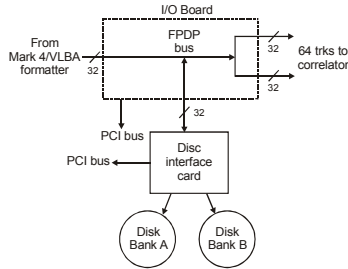

Figure 6: Diagram of 'st' data mode
2. ‘st’ – (‘straight-through’ Mark 4 data; see Figure 6) headstack 1 tracks 2-33 are directly recorded using the 32-bit wide FPDP bus connected to the StreamStor card. The data are not massaged in any way; all parity bits are recorded. At the Mark 5A output, the data are duplicated on headstack 2 tracks 2-33. In ‘st’ mode, the input data may be of any format, but for VLBI usage it will usually be data from a Mark 4 or VLBA formatter. ‘mark4’ and ‘vlba’ are defined as two data submodes for the purpose of Mark 5A software being able to interpret data recorded on disk.